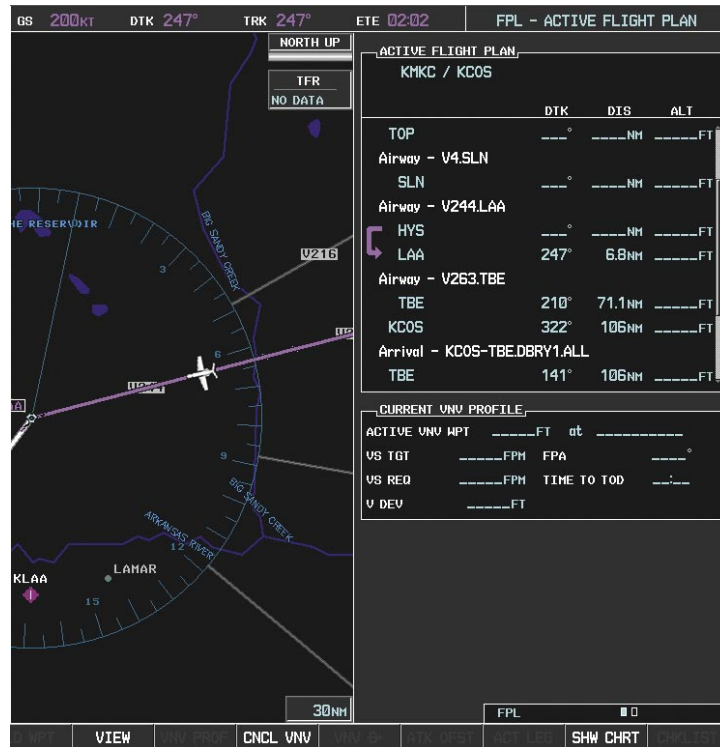

Figure 5-116 HYS to LAA Leg Active
10) At Lamar VOR (LAA) V263 is intercepted. See Figure 5-116.